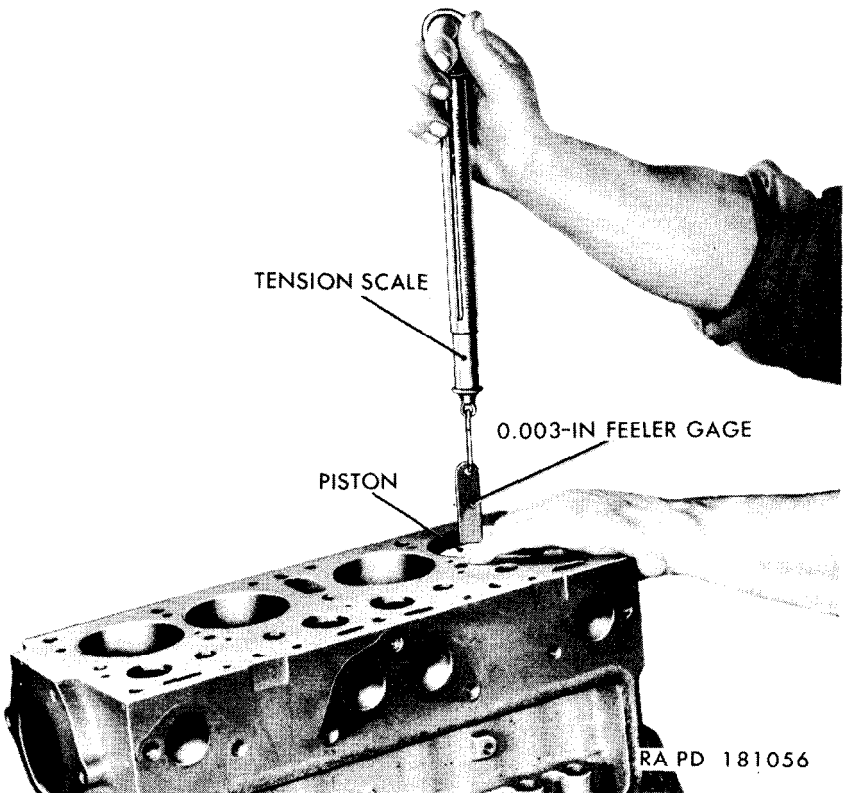

Figure 45. Fitting pistons to cylinders.
- (5) Within manufacturing tolerances, pistons and cylinder block piston bores vary in size by a fraction of a thousandth of an inch. Since this is true, in order to obtain the most satisfactory running clearance between a piston and a cylinder, the cylinder must be fitted with a piston that is oversize approximately the same fraction of a thousandth inch that the bore is oversize; or vice versa. Fitting pistons to cylinders is a selective, or trial and error operation; that is, if the first piston does not meet the standard ((c) below) others must be tried until the correct clearance is obtained ((d) below). Fit pistons to cylinders (fig. 45) as follows:
- (c) Lower the full length of the 0.003-inch feeler gage (fig. 45) into one of the cylinders of the previously rebuilt cylinder block. Lower the full length of the piston (upside down) into the same bore and so positioned that the feeler gage is directly opposite the T-slot in the piston. Pull up on the spring tension scale and note the reading on the indicator as the feeler is withdrawn from the cylinder bore. If a reading of from 5 to 10 pounds is obtained, the piston is satisfactory for use in that bore. If a reading of less than 5 pounds is obtained, the piston is too loose; if more than 10 pounds, the piston is too tight.